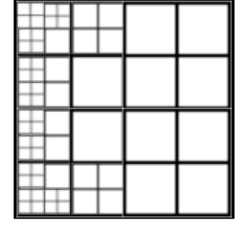

Figure 6.6: Adaptive Refinement.
- **Number of Refinements:** This parameter is used to define the number of times the mesh will be refined. The minimum value is one, i.e., only the original mesh is solved. At each adaptive refinement level, either all the cells (global) or 30% of the cells with largest error (computed using an error estimator; adaptive) are split into four. The process is repeated at each refinement level. An example of mesh that is refined globally several times and an adaptively refined mesh is shown in Figure 6.6.